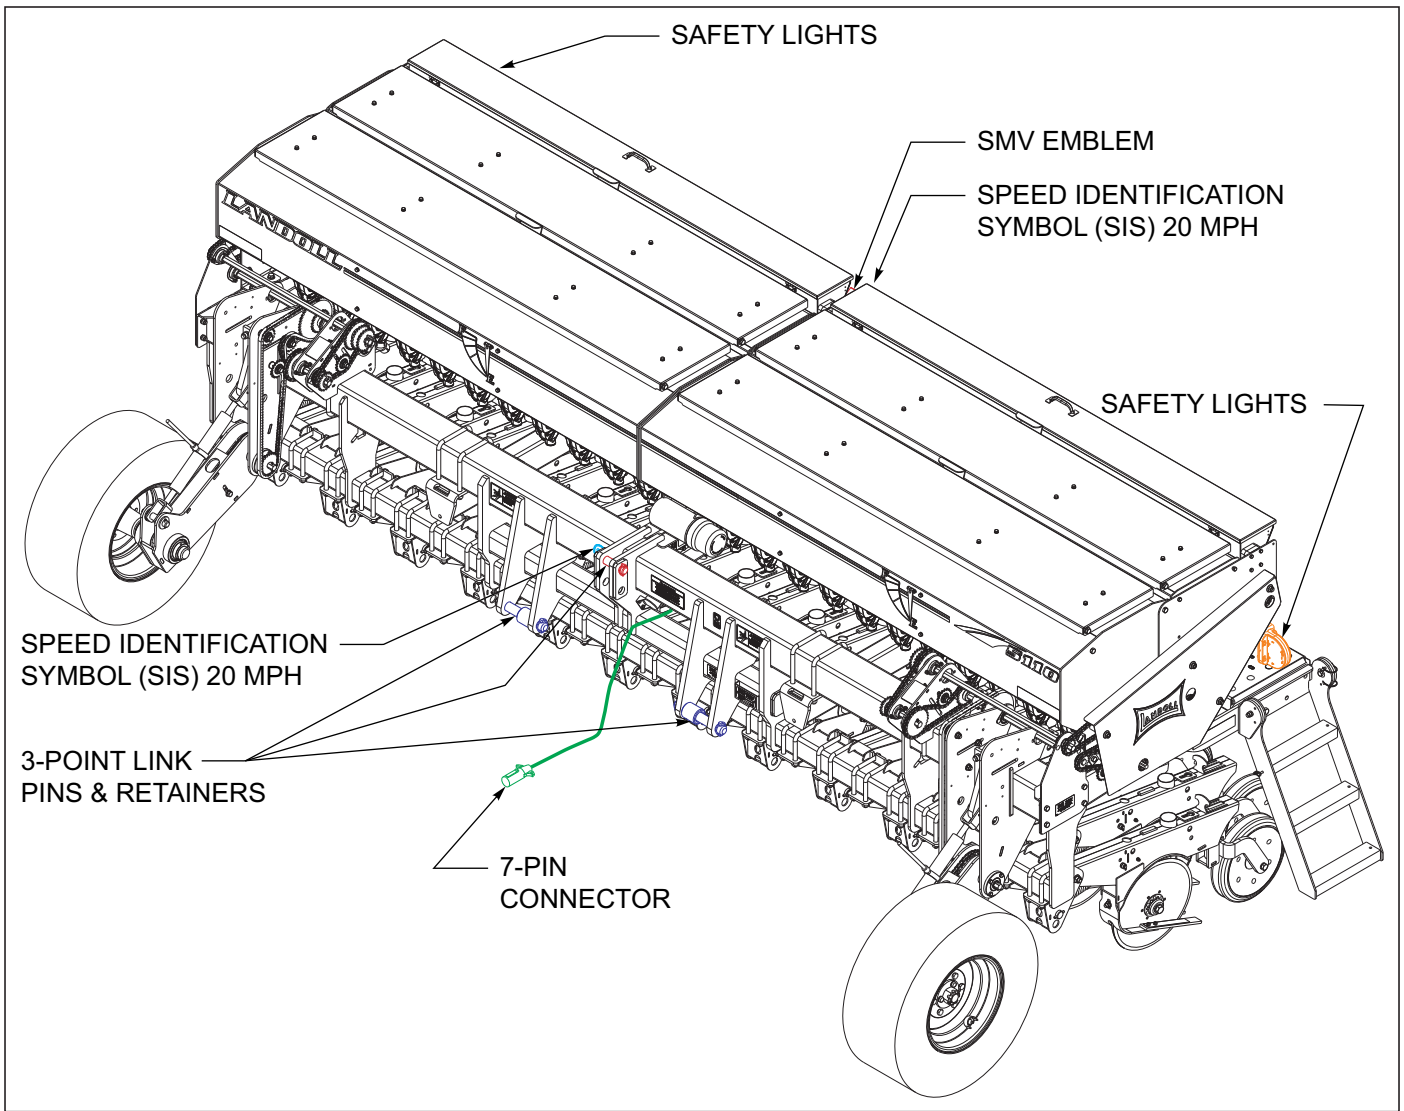

Figure 4-14: Transporting Grain Drill (Three - Point Hitch)
5. Plug in the safety lights to the tractor seven-pin connector *See Figure 4-14*. Make sure lights, reflectors, and SMV emblem are clearly visible and functioning properly. Remove any obstructions such as dirt, mud, stalks or residue that restricts view before transporting.